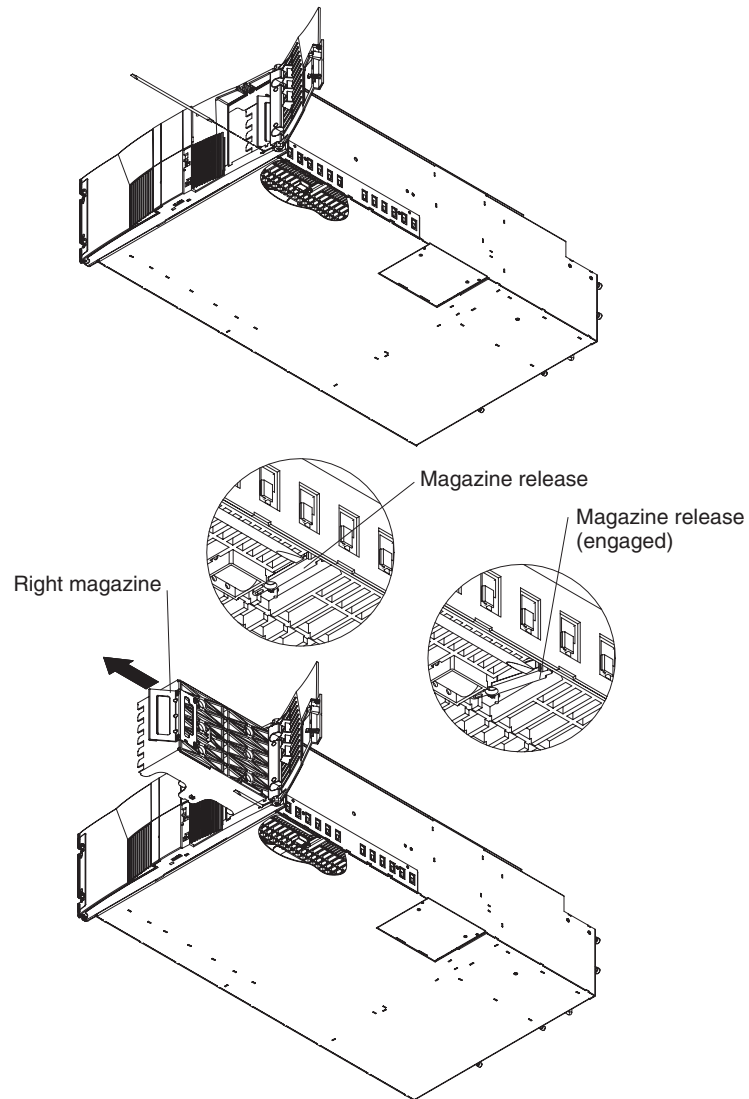

Figure 17. Magazine release
3. Insert the wooden dowel that is provided with the library chassis component into the magazine release hole and actuate the magazine release mechanism as shown in Figure 17 on page 41.